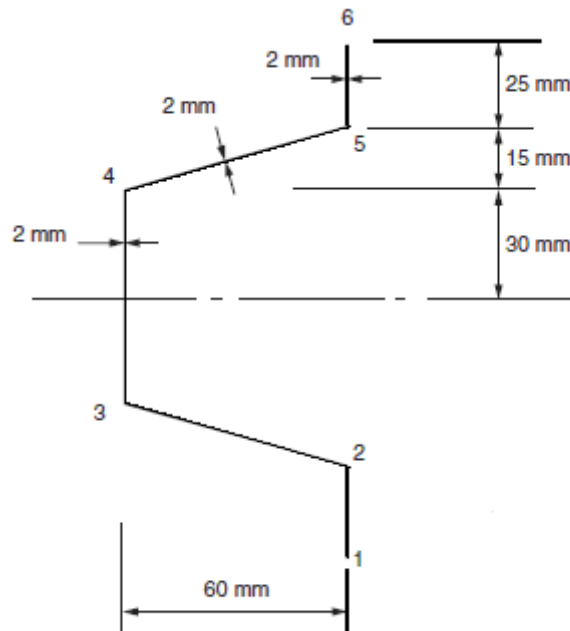

Figure 7:
8. Determine the rate of twist per unit torque of the beam section shown in Figure 7 if the shear modulus G is $25\,000 \text{ N/mm}^2$.